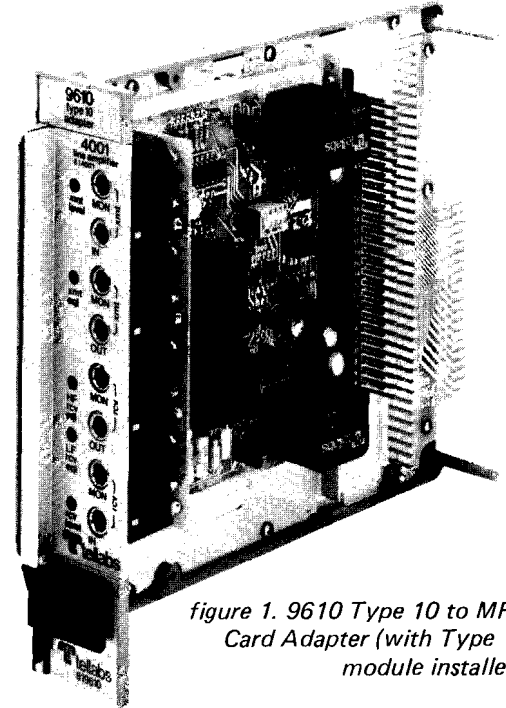

figure 1. 9610 Type 10 to MFT Card Adapter (with Type 10 module installed)
1.01 The Tellabs 9610 Type 10 to MFT Card Adapter (figure 1) is a single-module plug-in mounting device that allows Tellabs Type 10 modules to be used in Western Electric Metallic Facility Terminal (MFT) mounting shelves. Each Adapter (with a Type 10 module installed) is pin-for-pin compatible with the Western Electric MFT wiring scheme.